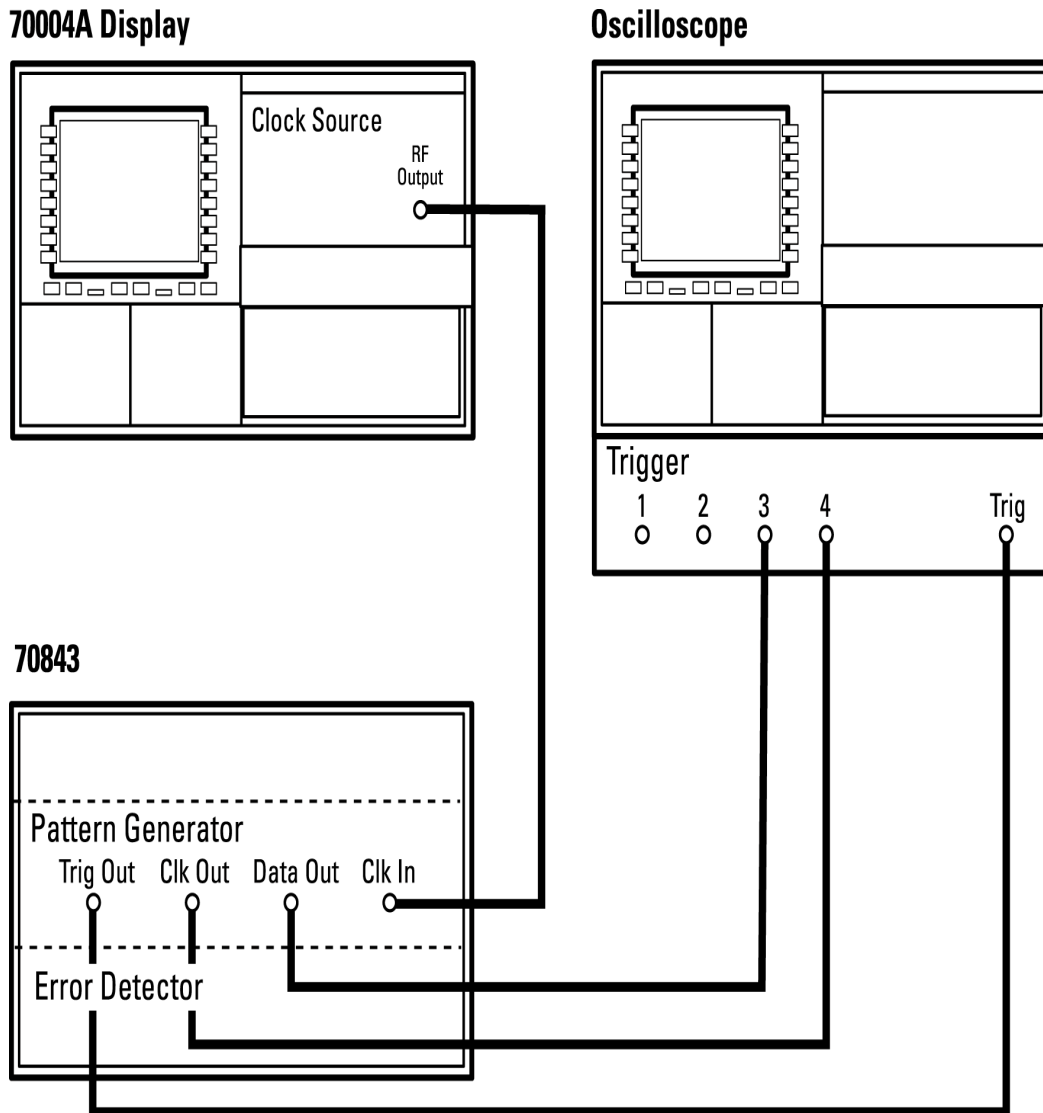

Figure 11-5
1. Connect the pattern generator clock and data outputs to the oscilloscope as shown in Figure 11-5 and set up a 1010 pattern at 1.0 Gb/s. Set the pattern generator Pattern Trigger to trigger on Pattern.